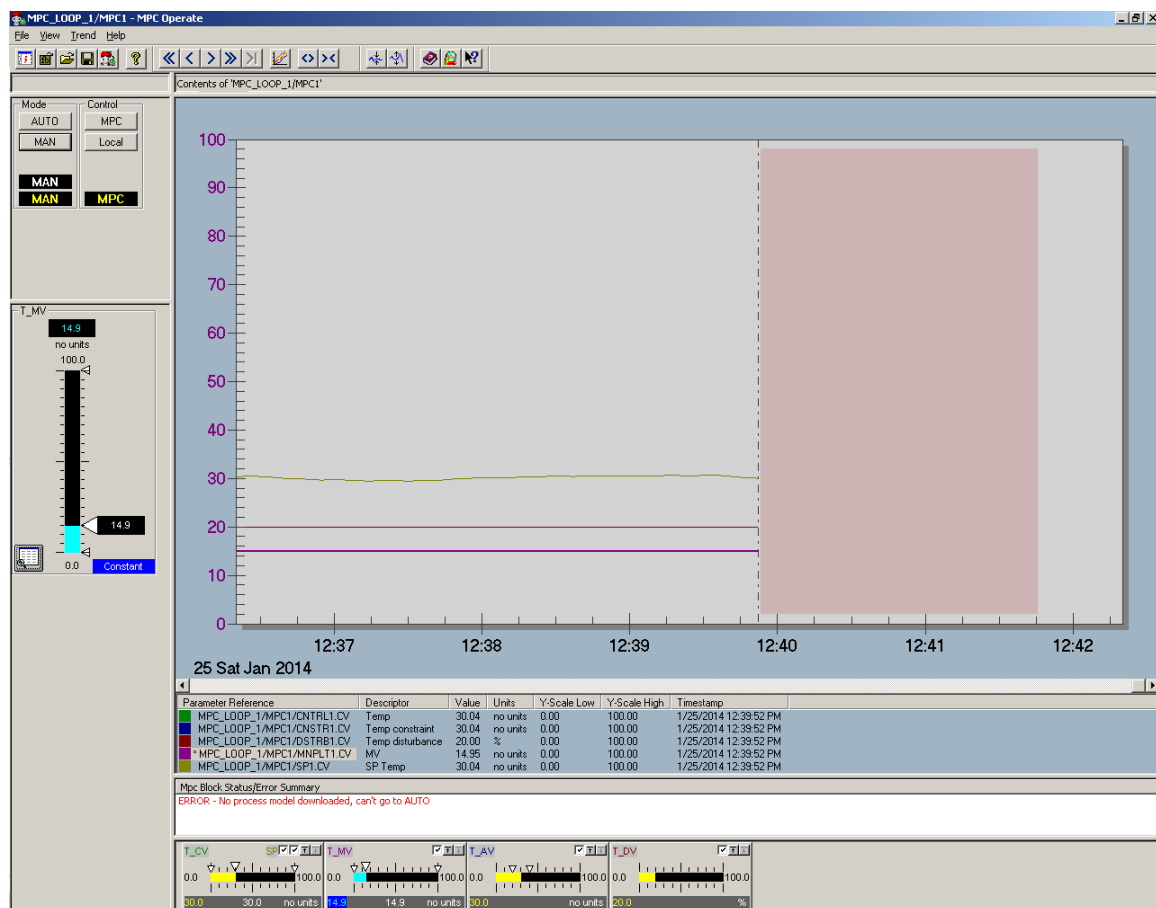

Figure 3.4 Adjusting temperature manually in MPC Operate.
Start by marking all the parameter check boxes in the bottom of the figure. Click on the manipulated variable (MV). At the left side a slide-bar for the parameter is then shown. Adjust the slide-bar so that the temperature gets steady and about 30° Celsius, as seen in Figure 3.4.